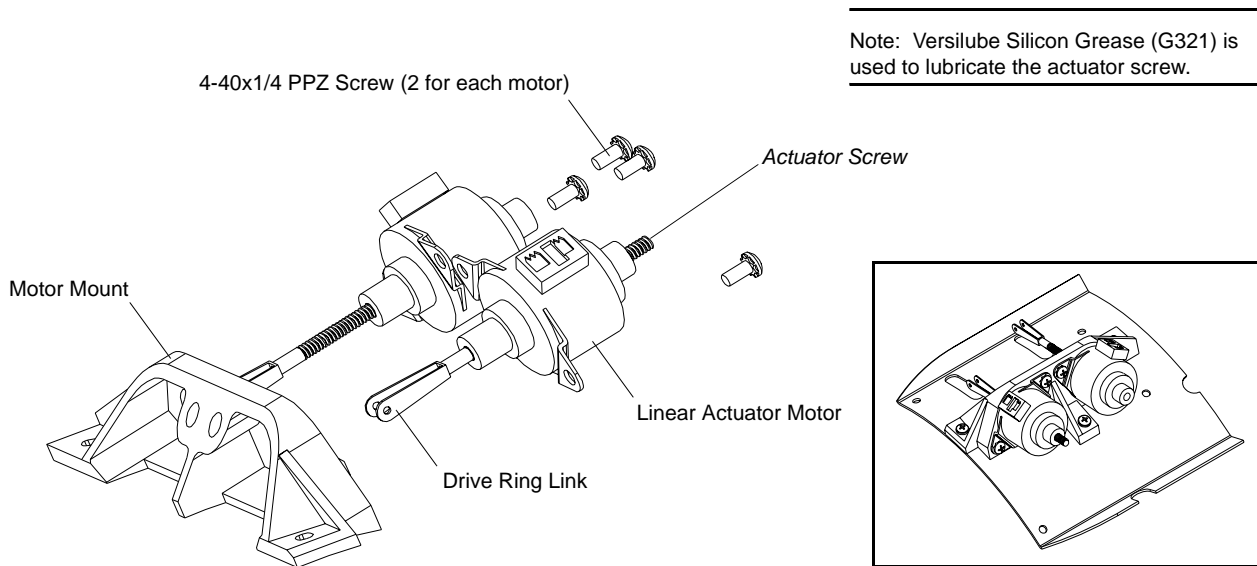

Figure 10: Magenta/Blue Linear Actuator Motor Replacement
- Step 7. At linear actuator motor, using #1 Phillips screwdriver, remove two 4-40x1/4" PPZ screws securing linear actuator motor to actuator mount, and remove motor. See **Figure 10**.